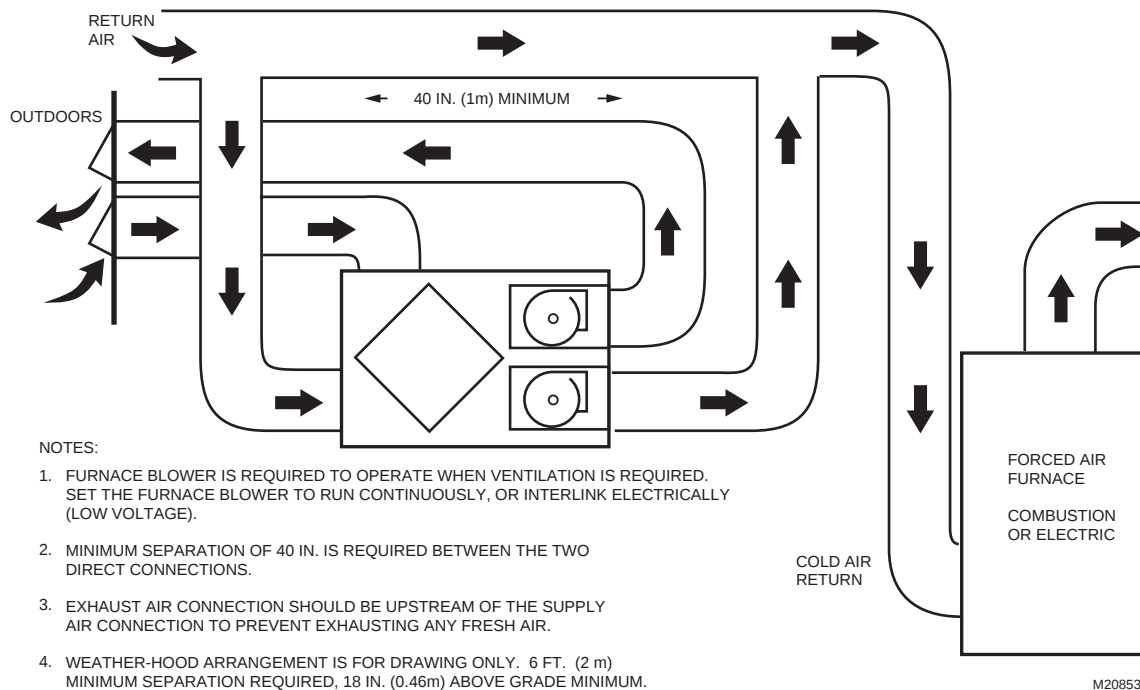
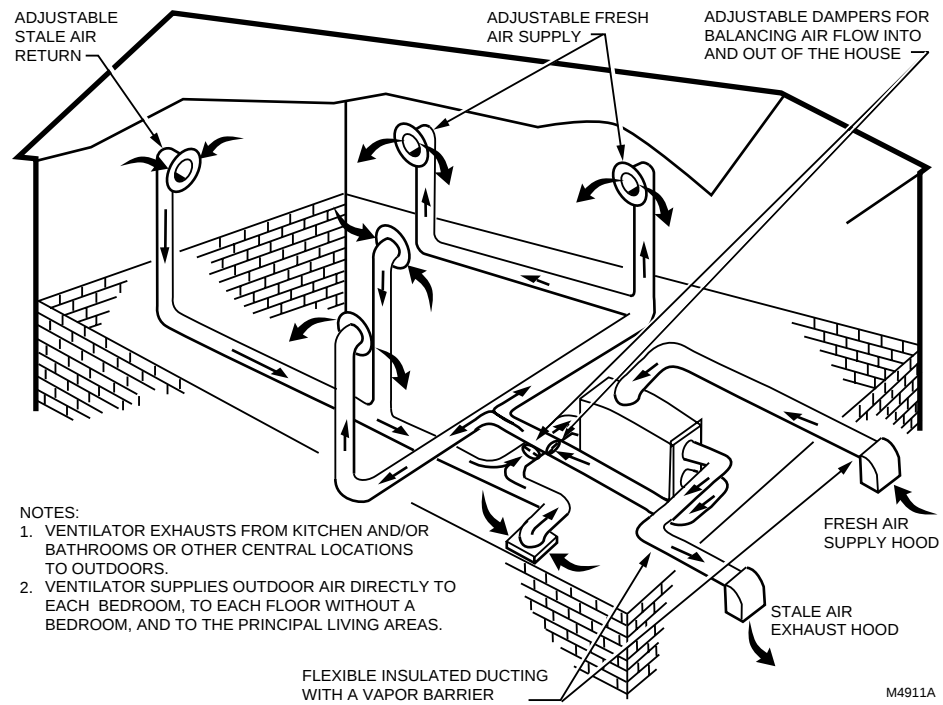
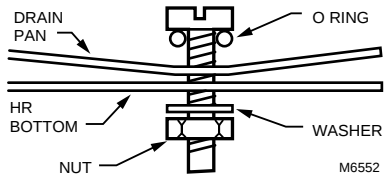

Fig. 6. Direct connection of ventilator supply air stream and exhaust air stream to furnace cold air return.
Fig. 7. Independent ventilator installation.
Fig. 8. Installing drain line.
- Ducting the supply outlet and/or the exhaust inlet of the ventilator to the return air plenum of the air handler is an excellent way to distribute fresh air and exhaust stale air from all parts of the house, while reducing installation costs. When choosing this method, balance the ventilator when the air handler is running and interlock the ventilator so that it can run only when the air handler runs. See Fig. 6. An alternate method is to balance the ventilator when the air handler is not running and let the ventilator run whether the air handler is running or not, see Fig. 7. An independent installation is shown in Fig. 8.